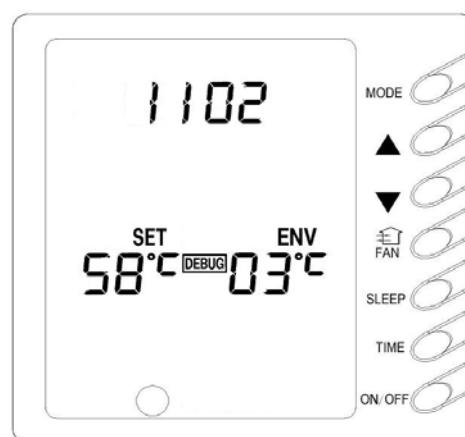

Fig. 13
12) View of System Internal Parameters (Fig. 13 and 14)